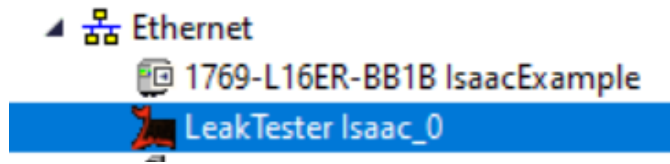

Figure 6 - Ethernet module
10. Clicking the **OK** button will finish the creation of the module, causing the newly created item to appear, as shown below in Figure 6 below.